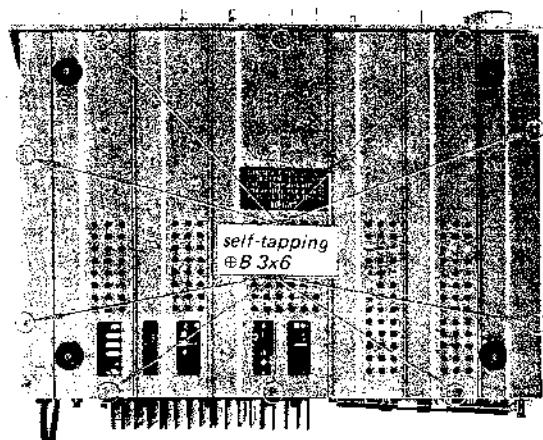

Fig. 2-2. Bottom plate removal
2. Remove the ten self-tapping screws ($\Theta B 3 \times 6$) at the bottom of the receiver as shown in Fig. 2-2. This frees the bottom plate.